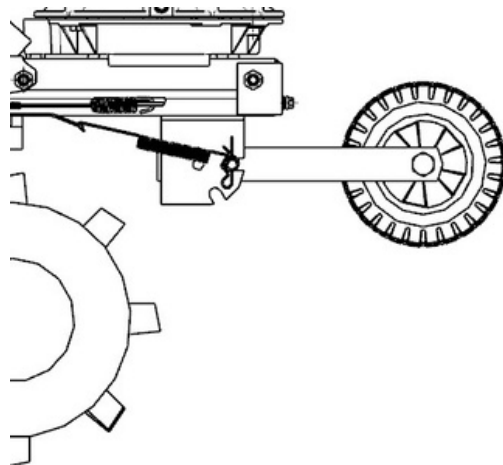

Figure 11
- 2) Adjust the front wheel of mini tiller to the state shown in Fig.11 when it is going to till the field.